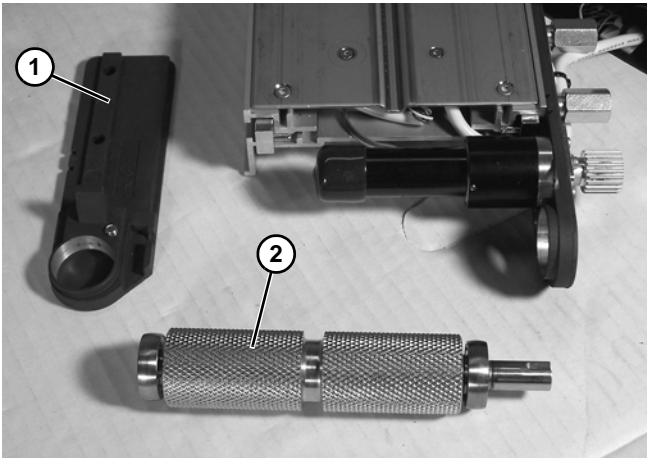

Figure 54
10. Remove head plate (**Figure 54, item 1**) from frame.
11. Replace spindle (**Figure 54, item 2**).